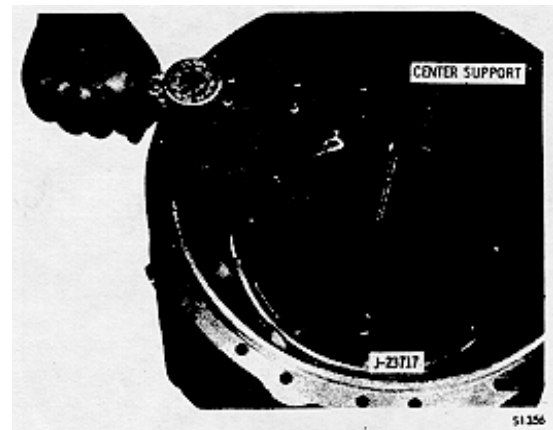

Fig. 7-12. Compressing center support for snapping measurement
(3) Remove the lifting bracket from the center support hub. Temporarily install the original 3/8-16 x 1-inch anchor bolt into the support. Tighten the bolt finger tight.
(4) Install center support compressor J-23717, as shown in figure 7-12. Use two of the 5/16-18 x 1 3/4-inch oil pump assembly retaining bolts to retain the compressor.
(5) Tighten the compressor bolt to 5 lb ft (7 N-m) (Fig. 7-12).